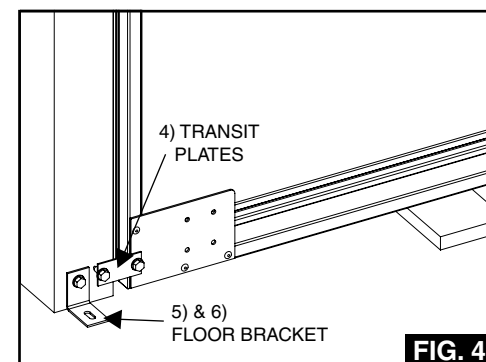

FIG. 4
2. If available, refit transit plate (See Fig 4). If not use suitable piece of wood and fix as transit plate.
4. Remove transit plates from bottom of assembly (See Fig 4) and discard.
5. Fit floor brackets to frame using No. 14 x 1" hex HD self tap screw, 1 off per bracket (See Fig 4).
6. Fix floor brackets to floor (See Fig 4). Secure using 1 off M8 x 50mm coach screw and M8 washer provided per bracket and with suitable wall plugs (See Note A).